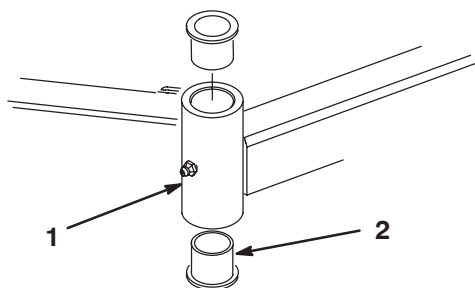

Figure 80
4. Insert a pin punch into the top or bottom of the mounting tube and drive the bushing out of the tube (Fig. 80). Also drive the other bushing out of the tube. Clean the inside of the tubes to remove dirt.